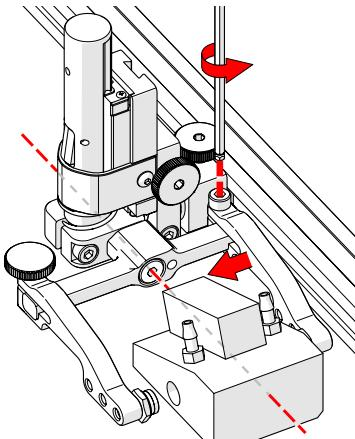

Fig. 174 - Adjust inner arm
4. Position the wedge on the inner probe holder arm (Fig. 174).
**TIP:** The probe holder yoke can accommodate many different probe and wedge sizes of varying widths. It is best to centre the wedge with the yoke's pivot axis. This can reduce wedge 'rocking' when scanning. Position the inner probe holder arm accordingly (Fig. 174) using the supplied 3 mm hex driver (Fig. 1).